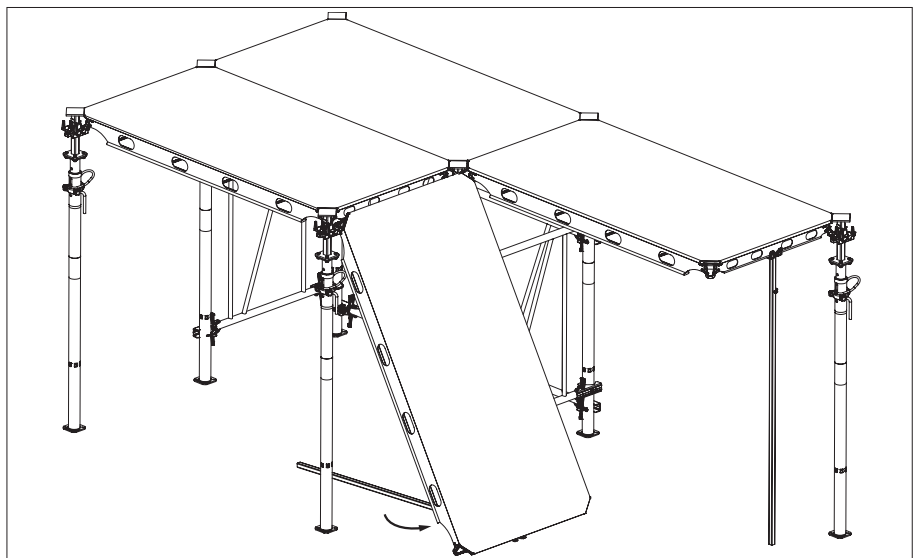

Fig. A5.11
4. Hook and swing the next panel (as shown in step 1 & 2) using an additional shuttering aid. (Fig. A5.11)